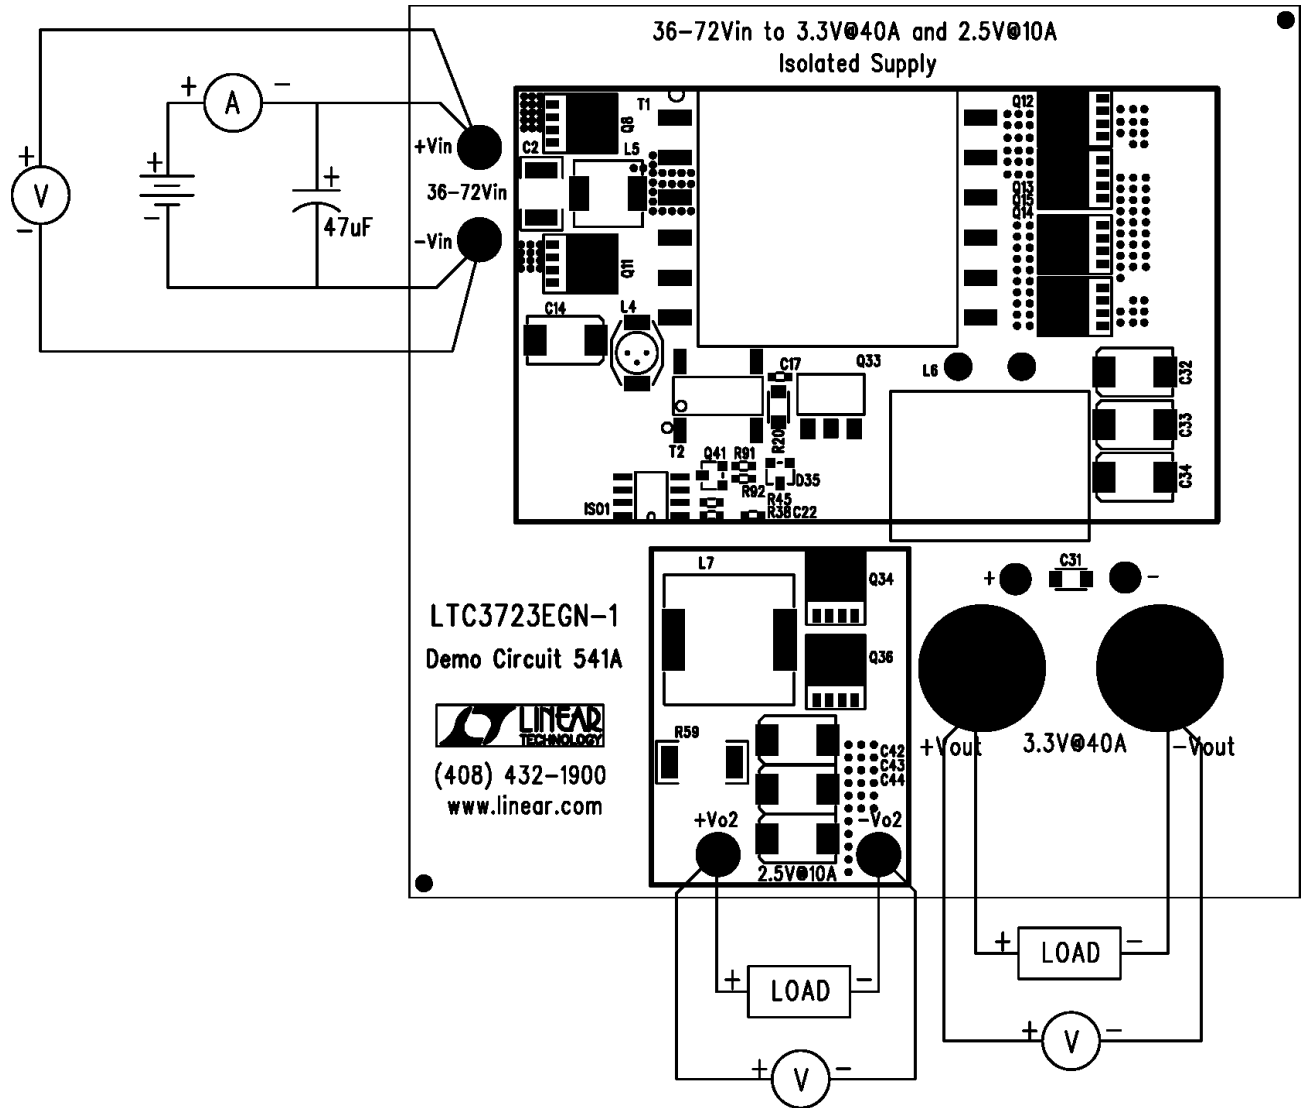

Figure 1. Proper measuring equipment setup
Demonstration circuit 541A is easy to set up to evaluate the performance of the LTC3732-1, LTC3901, LT1431 and LTC3710. Refer to Figure 1 for proper measurement equipment setup and follow the procedure below:
2. Connect a 36-72V power supply, a 47 μ F 100V capacitor and meters to the Vin pins, as shown in Figure 1. Observe proper polarity.
3. Connect a 0-40A load and meters to the 3.3V Vout pins and a 0-10A load on the 2.5V Vout pins, as shown in Figure 1.